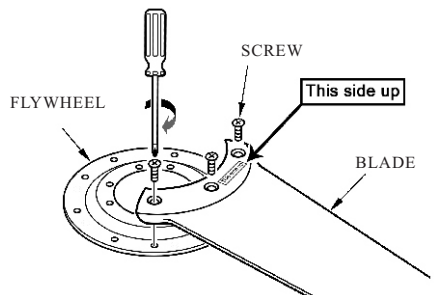

FIG.10
1. Attach each blade assembly to the flywheel using the blade screws. Tighten them securely (see Fig.10)